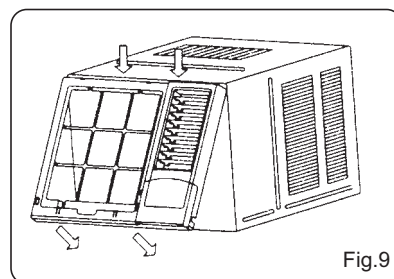

Fig.9
1. Install the frame. (see Fig.9)